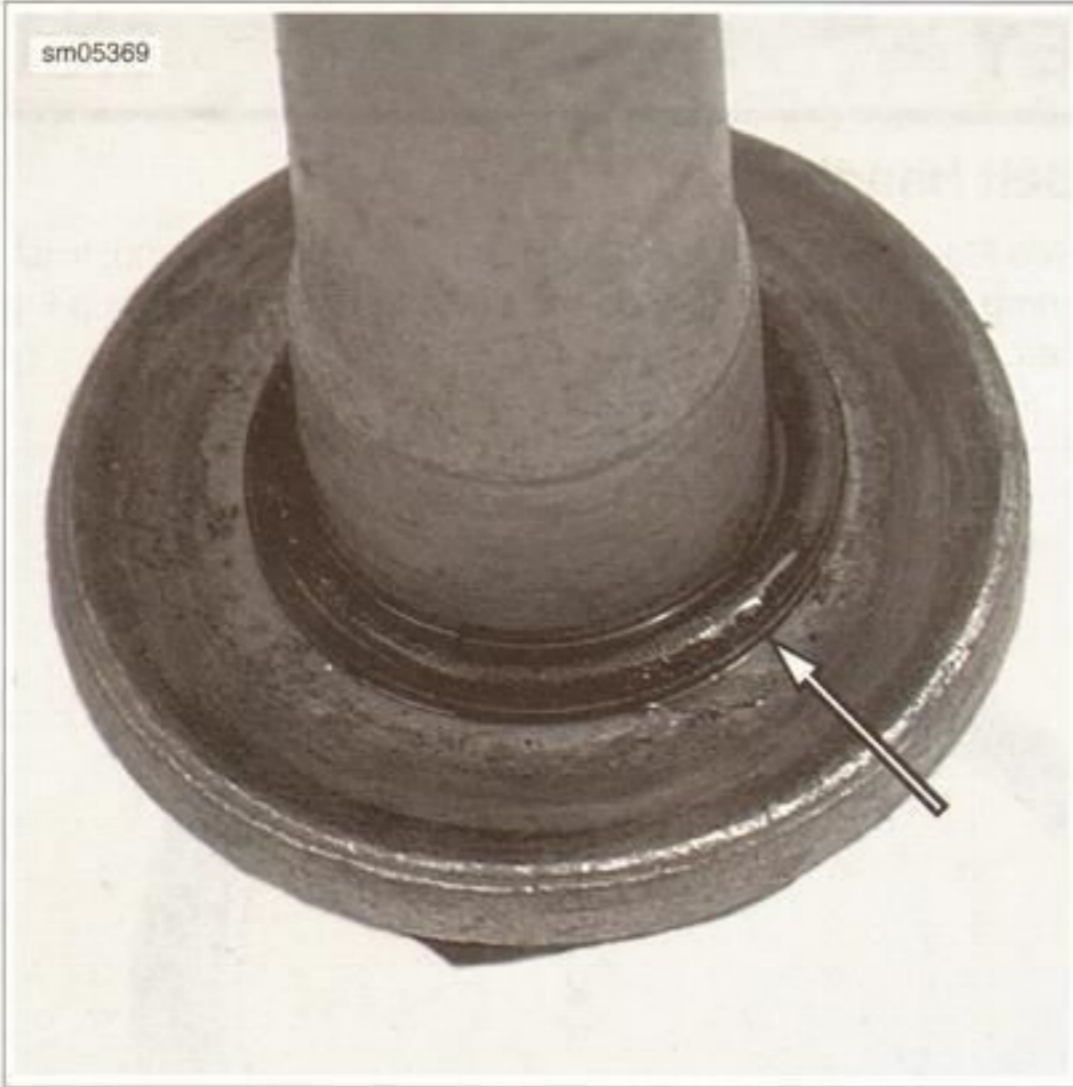

Figure 6-109. O-Ring
7. See Figure 6-109. Verify that the O-ring is undamaged under the head of the sprocket bolt and coat the O-ring with engine oil.